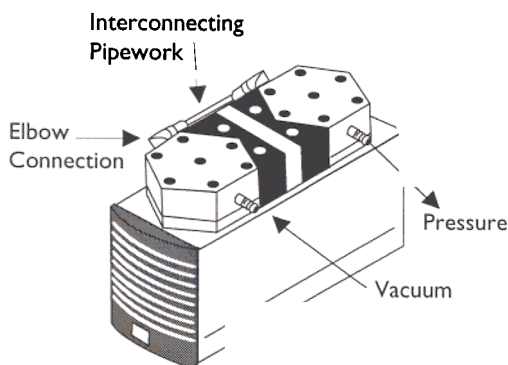

Figure 14: Gas Ballast
- ★ Remove the pipe work connecting the pump heads (see figure 14).
- ★ Unscrew the connecting piece from the vacuum side of the head. (See figure 14).